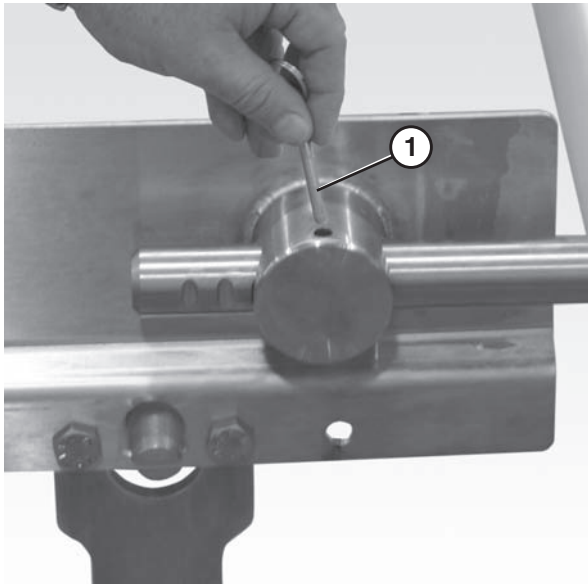

Figure 71
1. Remove the pull pins (**Figure 71, item 1**).